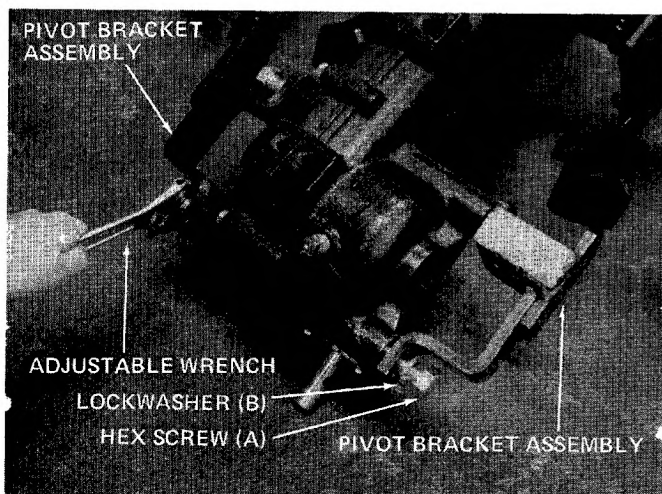

FIGURE 5
5. Install tiller pivot bracket assemblies. An adjustable wrench is required. Place pivot bracket in position on gear box as shown in figure 5. Secure with four hex screws (A) and lockwashers (B). See figure 5.